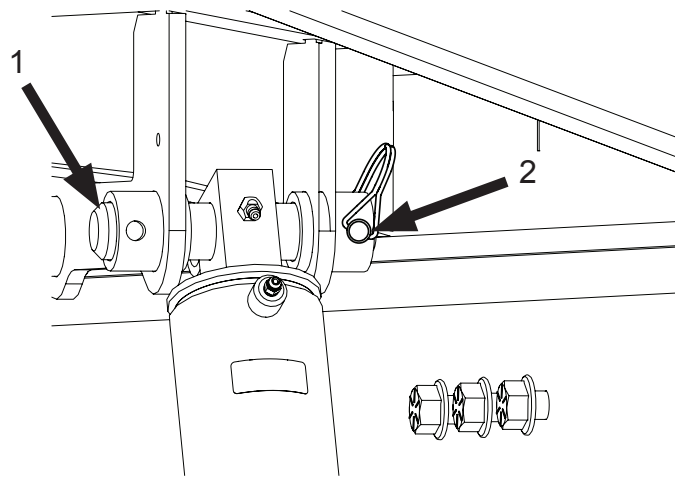

Figure 2
3. Inspect if the cylinder pin (Figure 2, Item 1) is installed for the upper cylinder assembly. (Inspect both service lift cylinder assemblies.)
4. Remove the round snapper pin (Figure 2, Item 2) from the upper pin on the body lift cylinder. Discard the snapper pin.